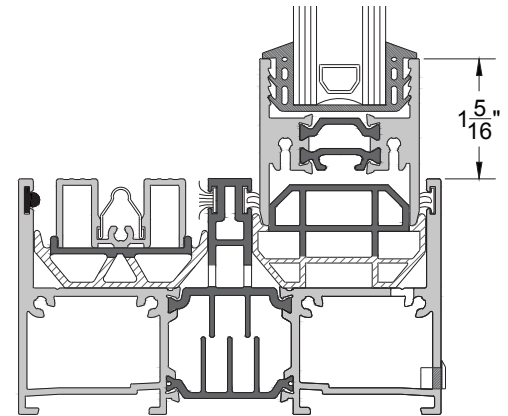

FIG. 14
4. From the exterior, tilt the fixed panel and insert into top track. Swing bottom of panel in and set in place. The sill riser should sit centered on the rail. There should be a 1-5/16" top and bottom rail reveal. Measure rail reveal at both ends and center of the panel to ensure panel is sitting flat on sill riser. (FIG. 14)